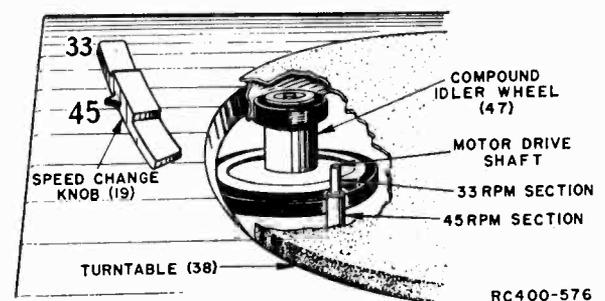

Figure 2. Compound Idler Wheel and Motor Drive Shaft.
45 RPM OPERATION (See Figures 2, 3 and 4)
The speed of the turntable is determined by the setting of the speed change knob (19). When the knob is in the "45" position, the larger rubber tire on the compound idler wheel (47) rides against the 45 RPM section (larger diameter) of the motor drive shaft. When the knob is moved to "33", the compound idler wheel moves so that the larger tire rides against the 33 RPM section (smaller diameter) of the motor drive shaft. See Figure 2.